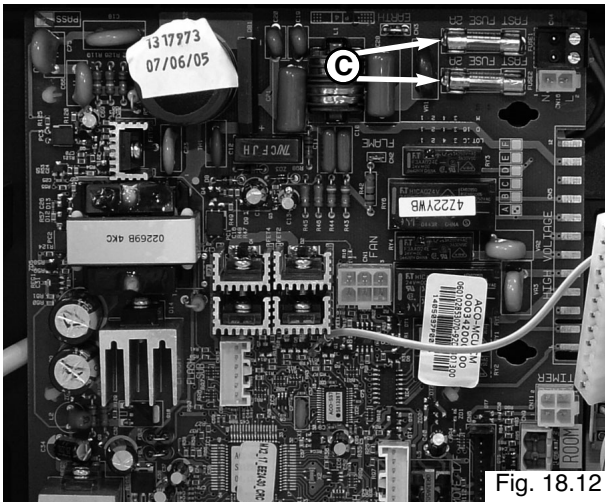

Fig. 18.12
3. Remove the fuses "C" (see Fig.18.12);